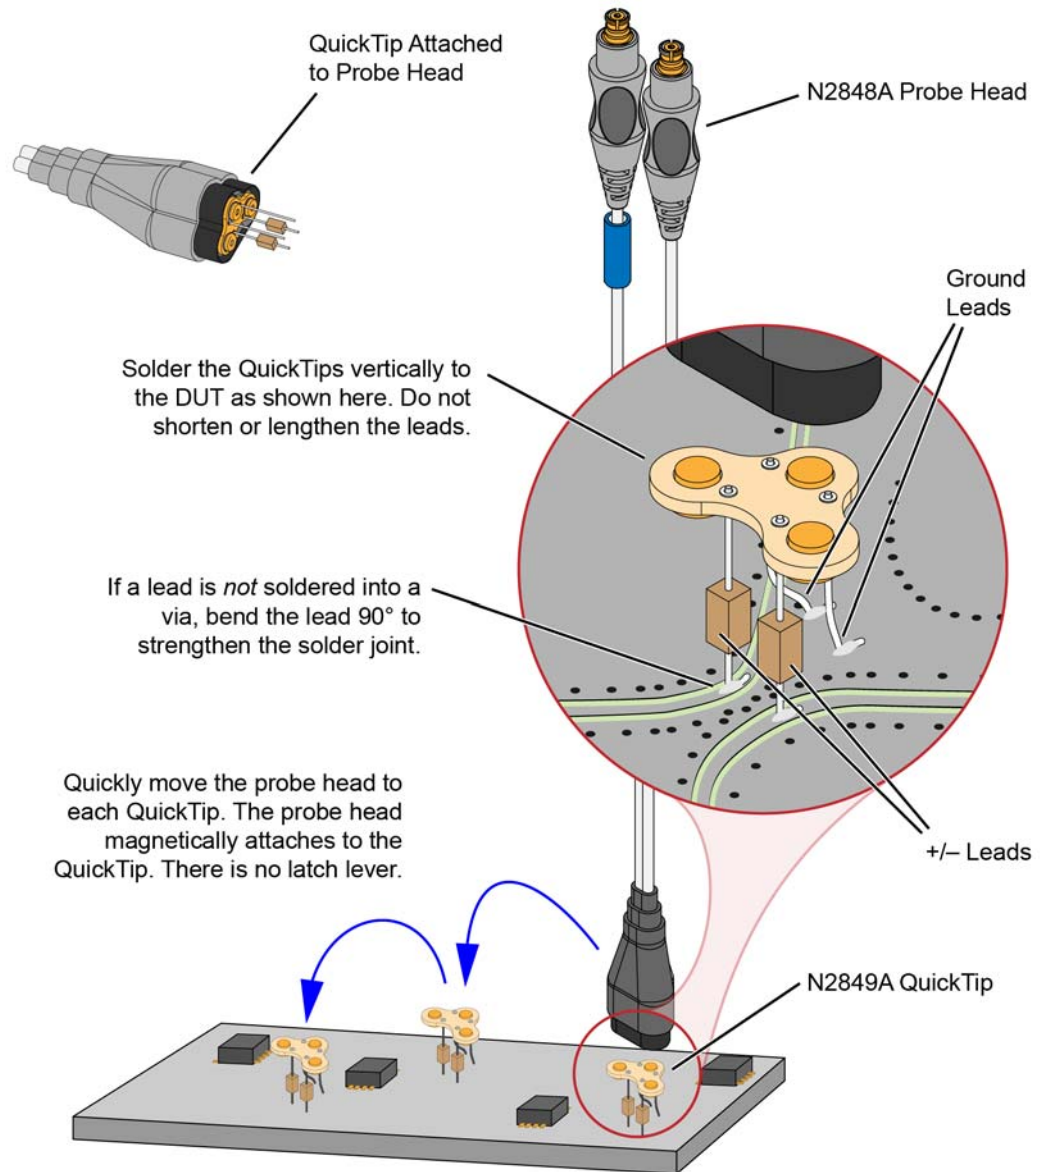

Figure 17 Probing with the N2848A Probe Head and N2849A QuickTip
Permanently solder any number of QuickTips to your DUT as shown in Figure 17 on page 36. Because the probe head is magnetically connected (instead of mechanically connected) to the QuickTip, you can effortlessly connect and disconnect to each QuickTip. For best performance, position the QuickTip vertically on the DUT. Because this is an InfiniiMode compatible head, the tip has two signal leads and two ground leads. The ground leads have minimal effect on your differential measurements. However, if you are making only differential measurements you can optionally cut off the ground leads or fold them out of the way. Be aware that without the ground leads, the mechanical stability of the QuickTip will be reduced and you will need to stabilize the probe head.
- Orient the QuickTip vertically as shown in Figure 17 on page 36.